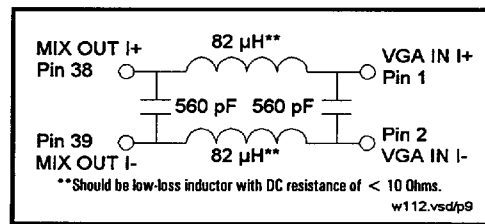

Figure 5. Recommended External Baseband Filter
4. For the external baseband filter between the Mixer outputs and VGA inputs, a recommended circuit is shown in Figure 5. This baseband filter has a corner frequency of 750 KHz. For better performance, the I channel filter should be kept away from the Q channel filter to prevent crosstalk. Also, using an orthogonal layout for these two filters will reduce mutual inductance and result in better performance. It is also essential to keep the two filters away from the VGA output pins to prevent potential instability due to the large gain of the VGA.